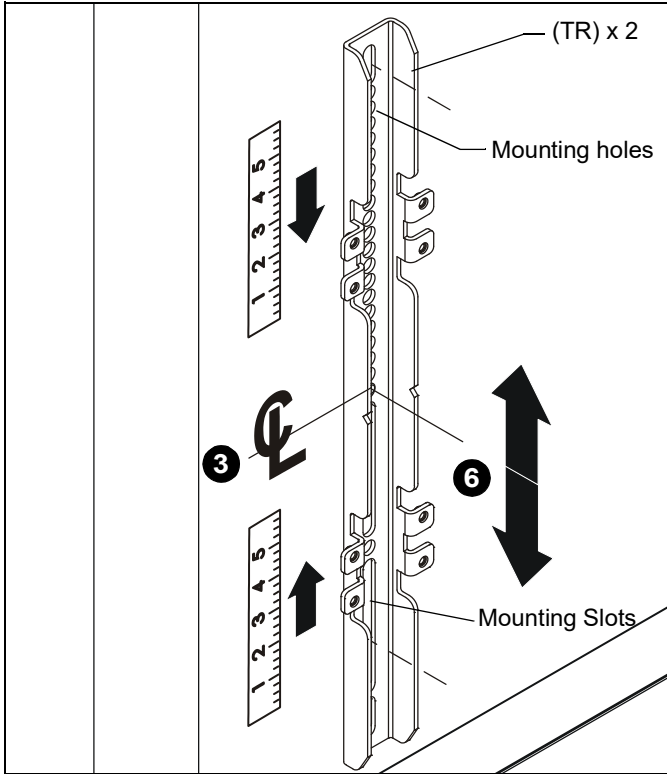
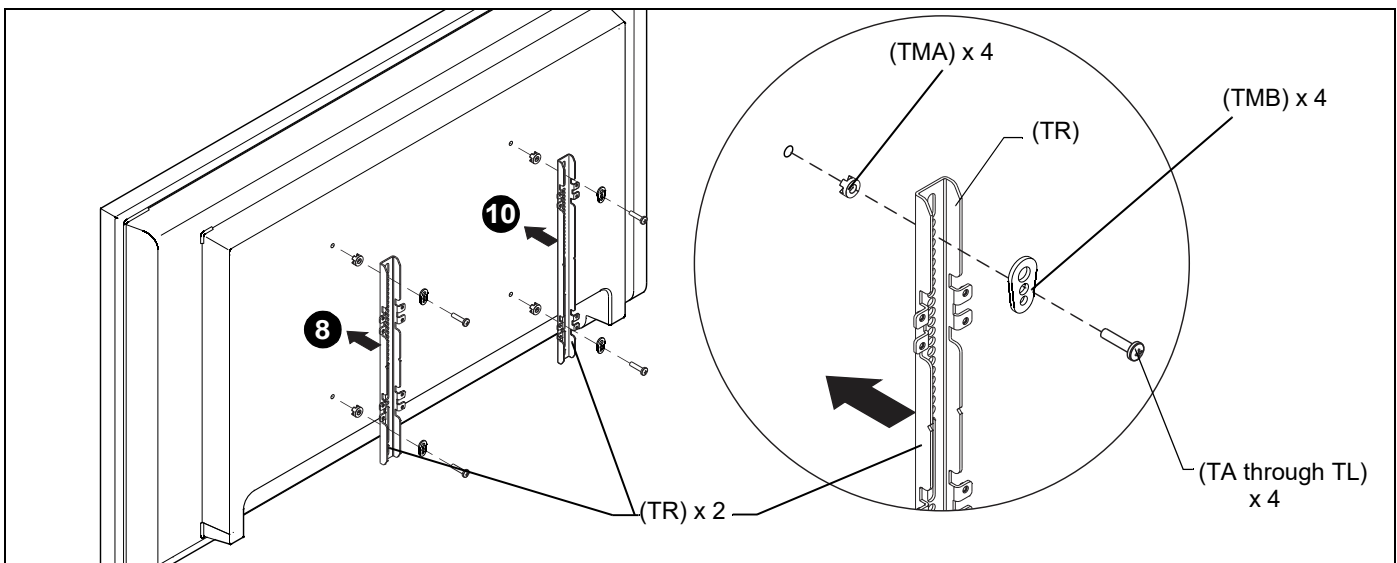

Figure 15
Figure 17
- Determine and mark the vertical center position between the Left side Upper and Lower mounting holes in display. (See Figure 15)
- Determine and mark the vertical center position between the Right side Upper and Lower mounting holes in display. (See Figure 15)
- Orient vertical mounting bracket (TR) so that mounting holes are on top and mounting slots are on bottom. (See Figure 15)
- Align mounting holes in vertical mounting bracket (TR) with upper and lower mounting holes in display.
- Adjust vertical mounting bracket (TR) position until mark made in Step 1 aligns with center mark in vertical mounting bracket (TR).
- Select correct screws, nesting spacers (if necessary) and universal washers (if required) from the hardware bag (TA-TM) and attach brackets to back of screen. (See Figure 17)
- If the display has a recessed mounting surface, protrusions or a power box, a spacer and longer mounting hardware must be placed between the display and vertical mounting bracket (TR). (See Figure 17)